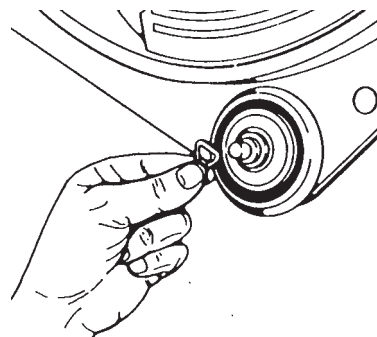

Fig. 4-39
2. Remove the tri-ring and the support rollers. (Fig. 4-39) Using a 9/16" open end wrench, remove the support roller shaft. (Front support rollers are right-hand thread.)